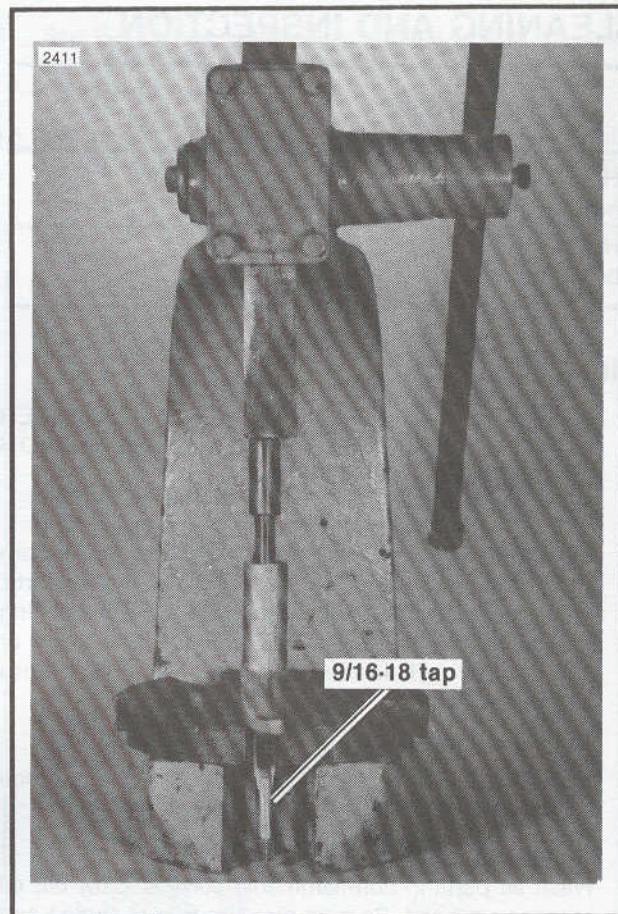

Figure 3-22. Remove Rocker Arm Bushing
1. See Figure 3-22. To replace worn bushings, press them from the rocker arm one at a time. If bushing is difficult to remove, turn a 9/16-18 tap into bushing. From opposite side of rocker arm, press out bushing and tap.